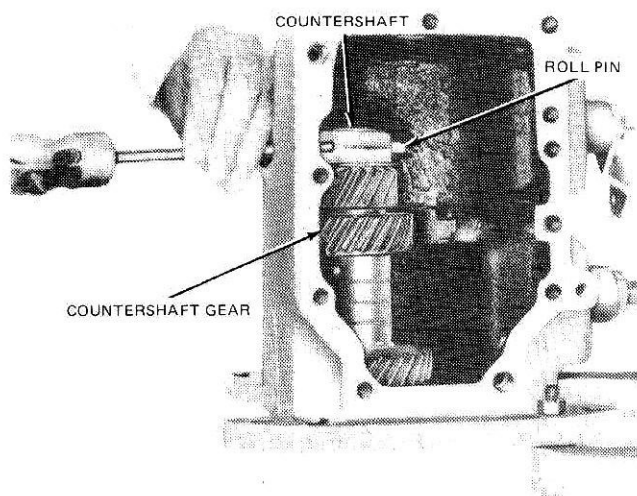

FIG. 5 Removing Countershaft Roll Pin
6. Remove the lubricant filler plug from the right side of the case. Working through the plug opening, drive the roll pin out of the countershaft with a 1/4-inch punch (Fig. 5).